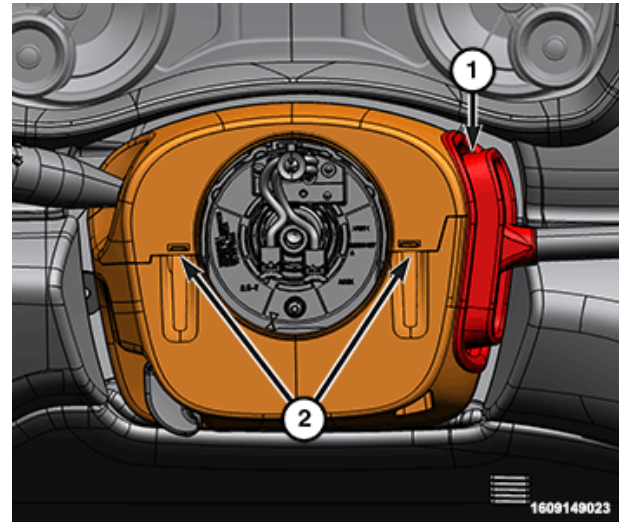

Figure 22 – Steering Column Shroud
- 18. If equipped, release the shifter boot (1) from the steering column shroud (Figure 22).
- 19. Disengage the upper steering column shroud tabs (2) from the lower steering column shroud (Figure 22).
7. Install the upper steering column shroud to the lower steering column shroud (Figure 22).
8. If equipped, install the shifter boot (1) to the steering column shroud (Figure 22).